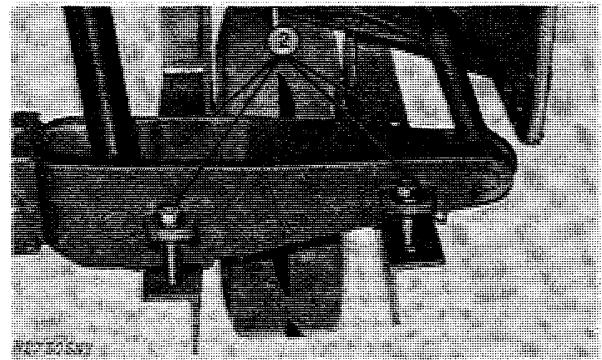

Fig. 2-Attaching Shipping Wheel Brace
2. Attach shipping wheel brace to axle beam with two 3/4 x 5-1/2-inch cap screws, two 3/4 x 4-inch cap screws, lock washers, and nuts (Fig. 2).